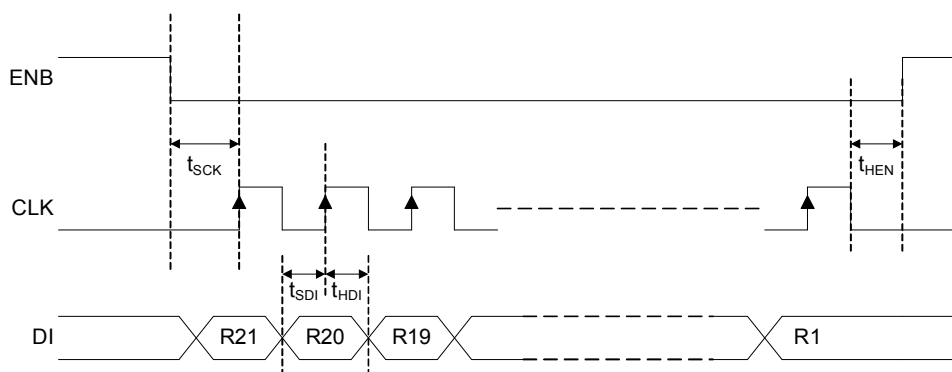
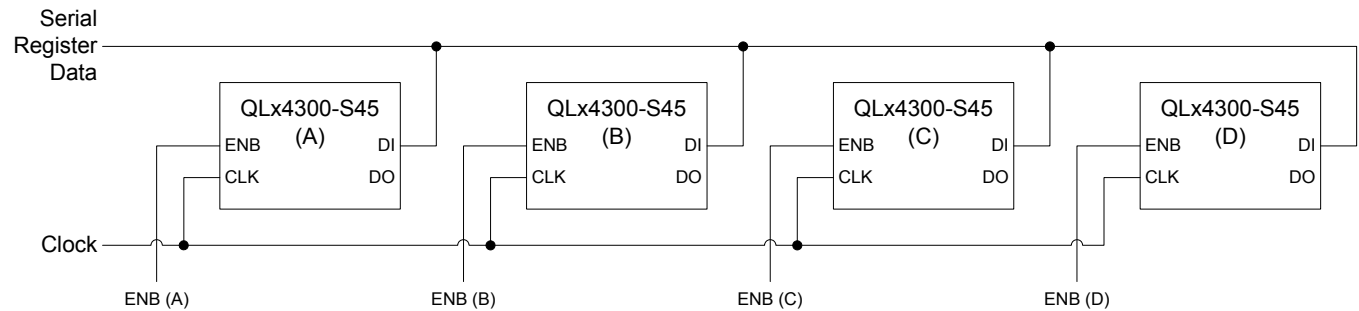

FIGURE 22. TIMING DIAGRAM FOR PROGRAMMING THE INTERNAL REGISTERS OF THE QLx4300-S45
FIGURE 23. SERIAL BUS PROGRAMMING MULTIPLE QLx4300-S45 DEVICES USING SEPARATE ENB SIGNALS
Pins 16 (DI), 45 (ENB), and 46 (CLK) are used to program the registers inside the QLx4300-S45. Figure 22 shows an exemplary timing diagram for the signals on these pins. The serial bus can be used to program a single QLx4300-S45 according to the following steps:
Multiple QLx4300-S45 devices can be programmed from a common serial data stream as shown in Figure 23. Here, each QLx4300-S45 is provided its own ENB signal, and only one of these ENB signals is pulled 'LOW', and hence accepting the register data one at a time. In this situation, the programming of each equalizer follows the steps outlined in Figure 22.